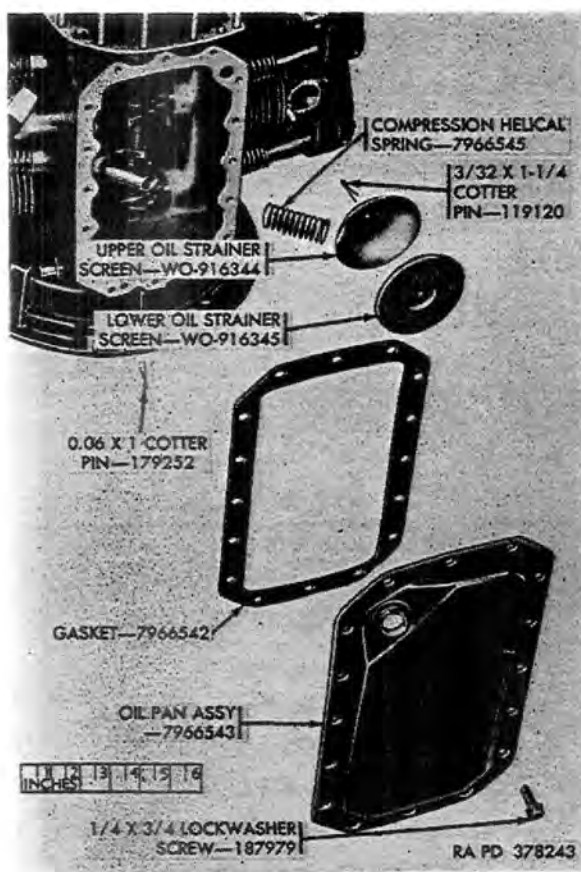

Figure 16. Removal of oil pan.
a. *Remove Oil Pan* (fig. 16). Remove 16 lockwasher screws securing oil pan to bottom of cylinder block and remove oil pan and gasket. Discard gasket.
b. *Remove Oil Strainer Screen* (fig. 16). Remove cotter pin securing lower oil strainer screen to upper oil strainer screen and remove lower screen. Remove cotter pin which retains upper screen to oil suction tube and remove upper screen and compression helical spring.